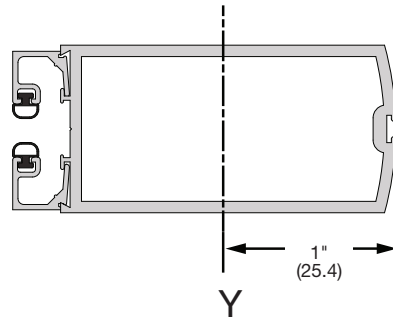

FIG. 1
2. Mark the stile centerlines 1" from the outside edge of the stile. (Fig. 1)